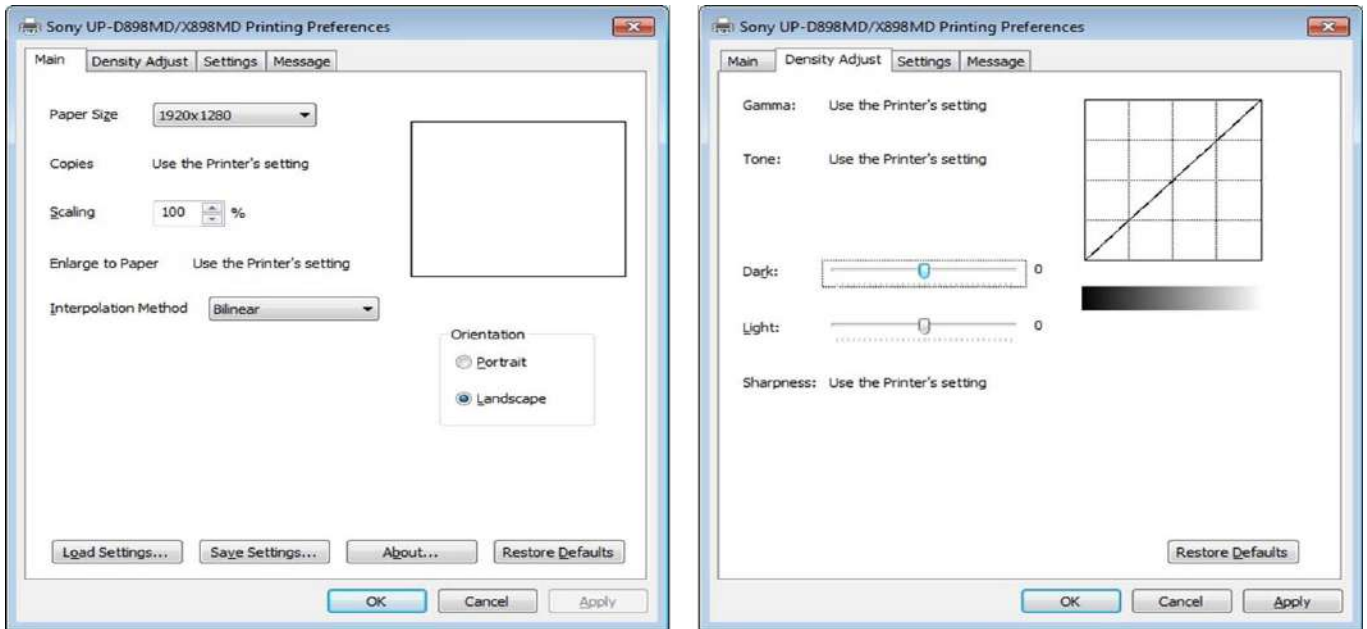

Figure 3-29 Layout + Density Adjust page
- 2) Select the **MAIN** page (see: Figure 3-29 below) and select:
- 3) Select the **DENSITY ADJUST** page (see: Figure 3-29 above) and select: